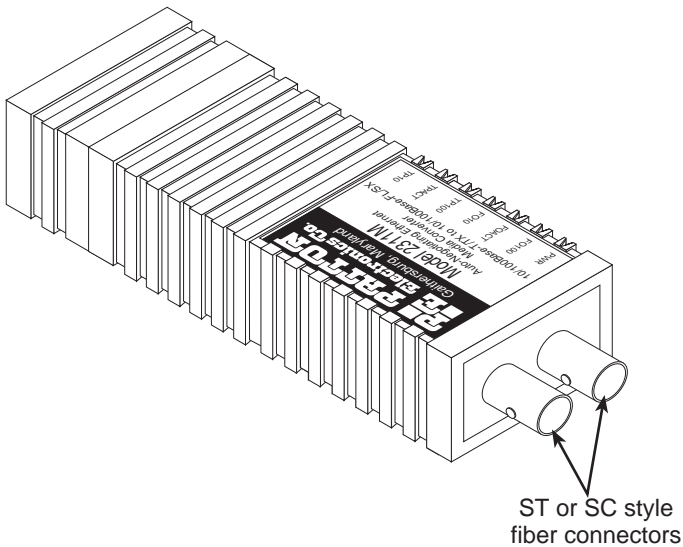

Figure 3. Fiber connector locations
3. Connect the dual fiber ST or SC connectors on the media converter (see Figure 3) directly to the 802.3 compliant multi-mode fiber cable equipped with male ST or SC connectors or via 802.3 compliant multi-mode fiber patch cord (not provided) and corresponding ST or SC fiber wall jacks.